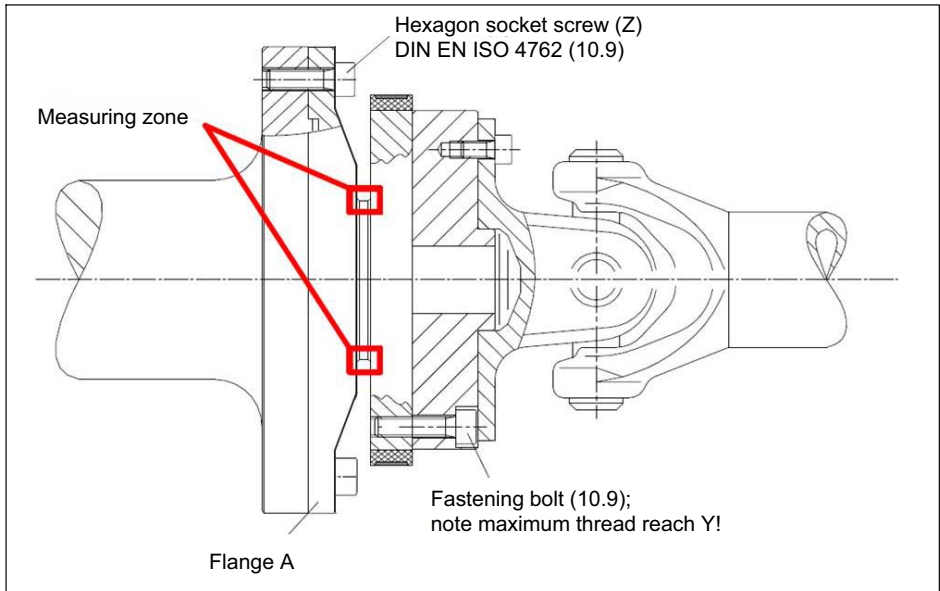

Fig. 5.4 Bolted rotor connection
*Make sure during installation that you do not damage the measuring zone marked in Fig. 5.4 by using it to support tools or knocking tools against it when tightening screws, for example. This can damage the transducer and produce measurement errors, or even destroy the transducer.*
2. For the connection of flange A (see Fig. 5.4), use *DIN EN ISO 4762 property class 10.9* hexagon socket screws of a suitable length (dependent on the connection geometry, see Tab. 5.1 on Page 25).